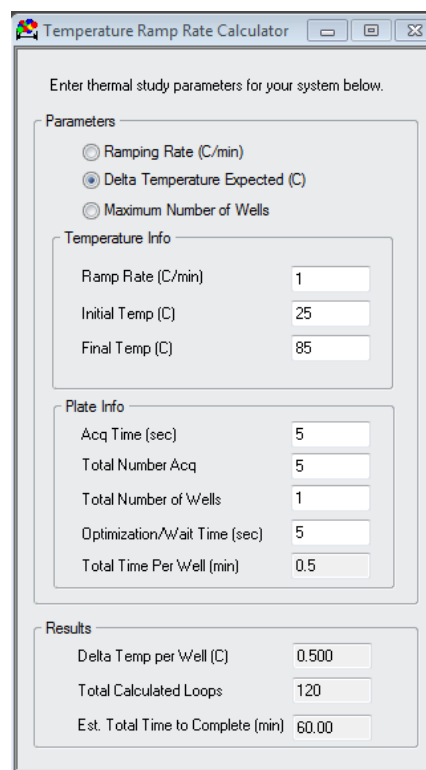

Figure 4: Temperature Ramp Rate Calculator helps determine run time, delta temperature and number of loops as well as wait time if desired.
- Set up a thermal ramping experiment in the **Event Schedule** similar to that shown in Figure 3. If using a preset, modify the Event Schedule to resemble that shown in Figure 4. Use the Event Schedule to set the **desired starting temperature (°C), temperature ramp rate (°C/min), end temperature (°C), the acquisition time (s), and number of acquisitions per measurement**. Generally, an acquisition time of 5 s and 5 acquisitions per measurement are sufficient. More information can be found in Chapter 5 of the *DYNAMICS User's Guide*.
number of loops DYNAMICS will perform during the experiment. (Figure 4). Enter 1 for **Total Number of Wells**.
Note: A “Wait (min)” step can be inserted after each measurement in the Event Schedule to increase the temperature interval at which data is collected. This is especially helpful when slow ramp rates are used, as it reduces the number of data points. The wait time and its effect on the temperature interval can be determined in the temperature ramp rate calculator (Figure 4).